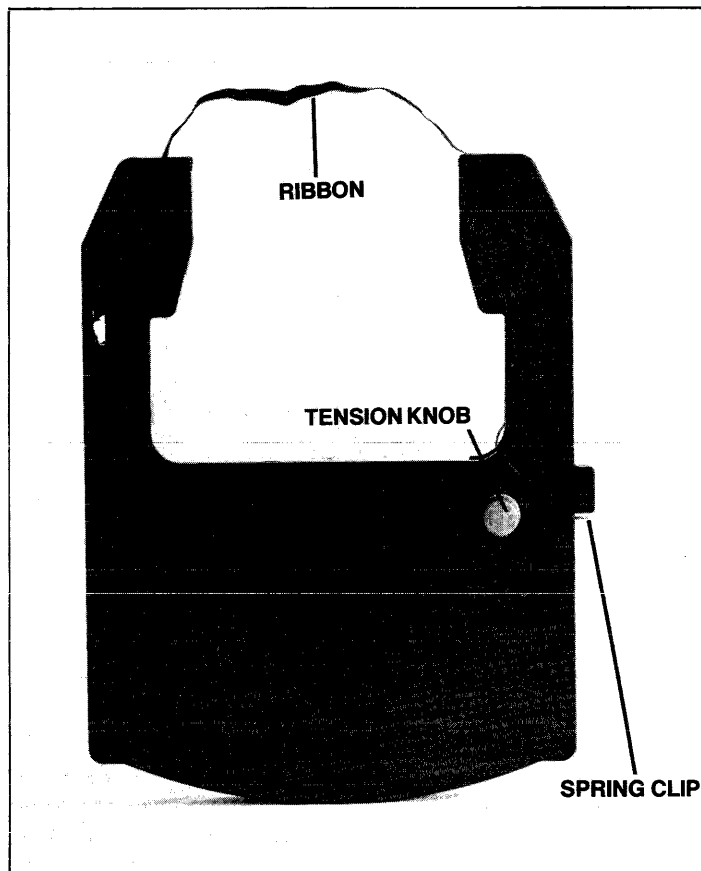

Figure 3-5. Ribbon Cartridge
Note: If the printer is not used for a few days (e.g., after a weekend), the exposed section of ribbon will become dry. Before you use the printer again, you should advance the ribbon by turning the red ribbon advance knob clockwise (see Figure 3-5) until a new section of ribbon is positioned in front of the printhead.
4. Pull out, remove, and dispose of the *spring clamp* located on the right side of the new cartridge. See Figure 3-5.